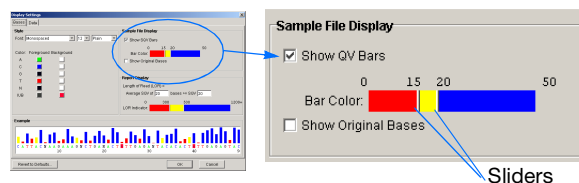

Figure 3 Display settings: Bases tab
- In the Sample File Display section (Figure 3), change the range for the QVs. Use the two sliders to specify the low, medium, and high ranges.